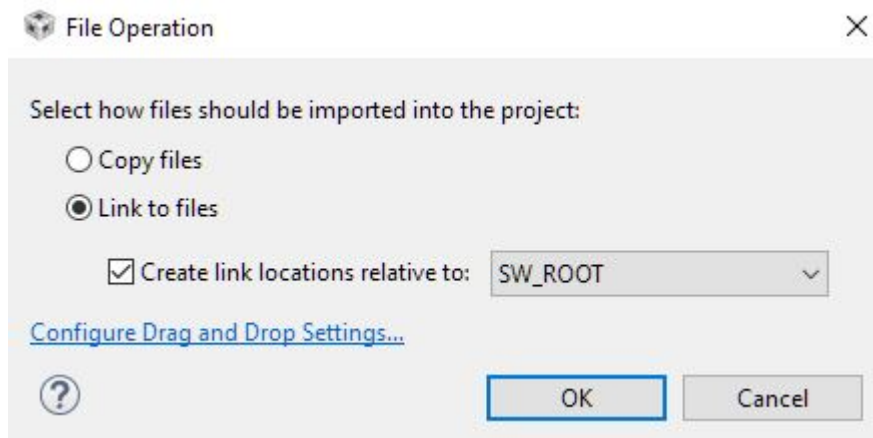

Figure 3-4. Recommended Link Location Path for Other TivaWare Files
4. When adding the files, CCS will ask whether to copy or link the file(s). Select the 'Link to files' option (Figure 3-4). If adding another file from within the TivaWare SDK, it is also recommended to change the 'Create Link locations relative to:' path to 'SW_ROOT'. **SW_ROOT** is a TivaWare defined path for the base TivaWare SDK directory on the computer.